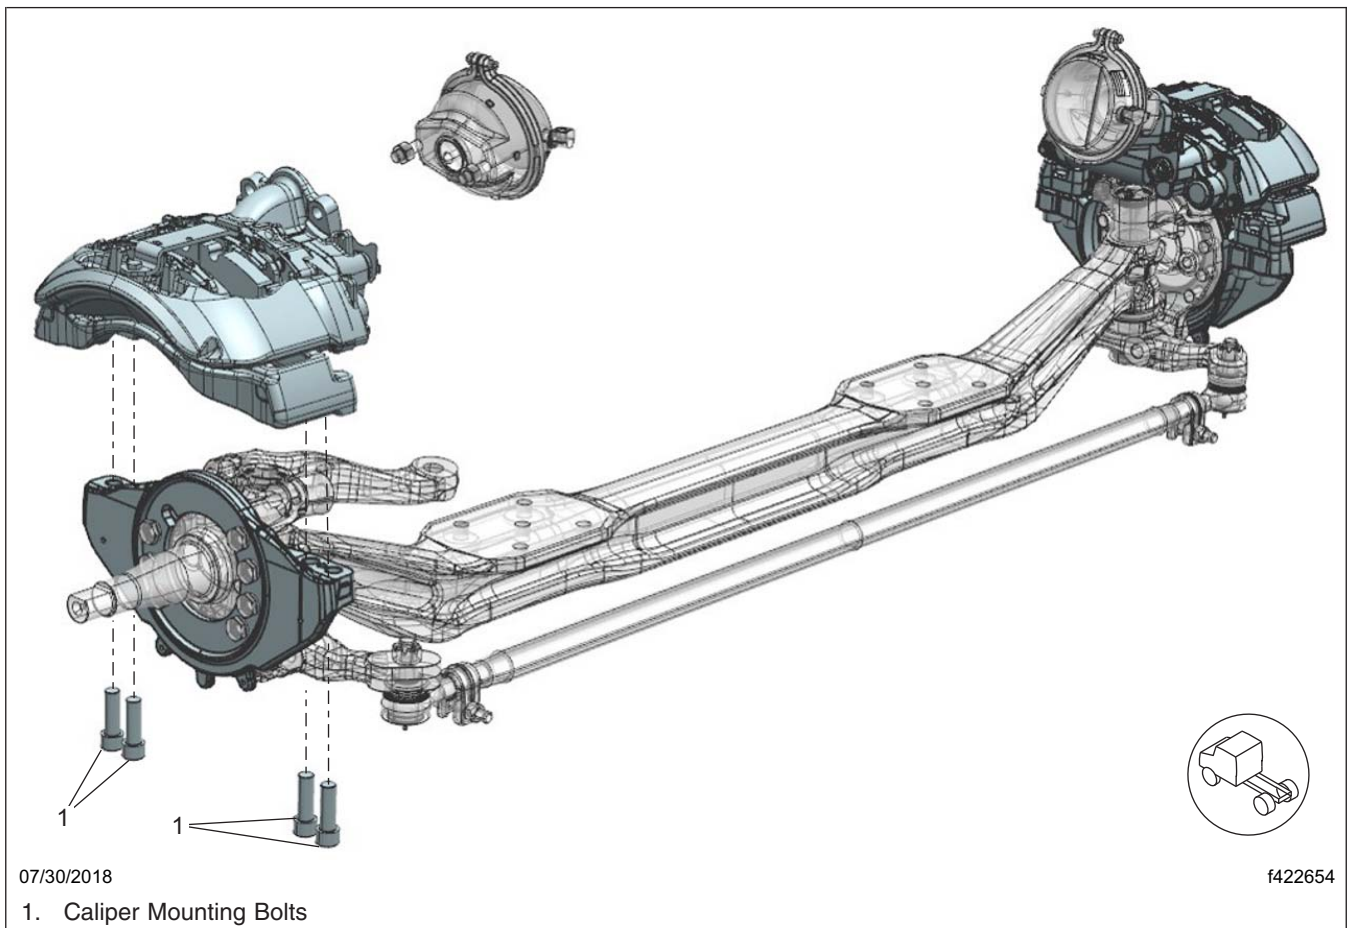
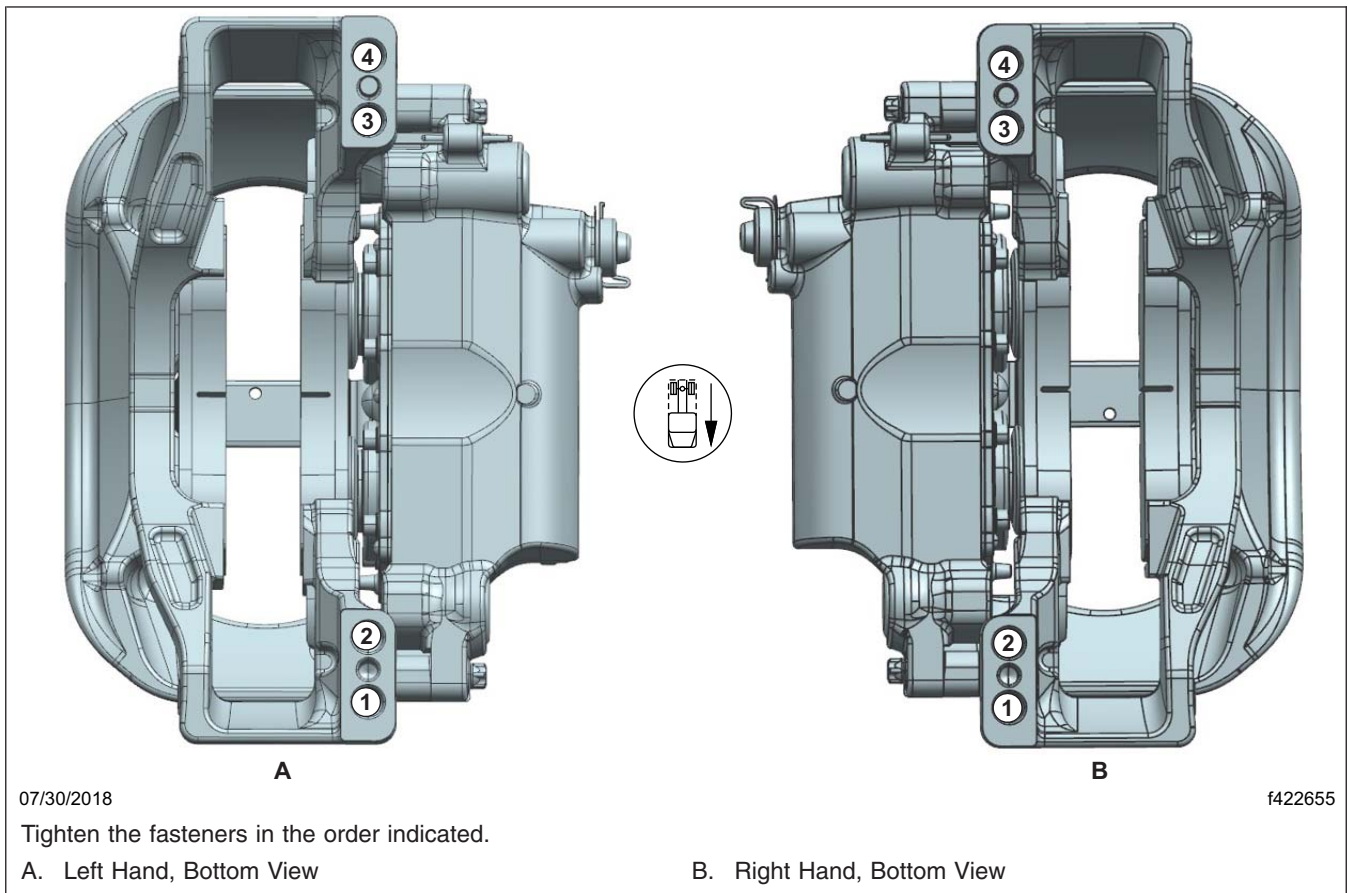

Fig. 3, Meritor Radial Mounted Caliper
Fig. 4, Tightening Pattern, Meritor Caliper
6. Align each caliper/carrier assembly with the rotor by pushing the fixed pin side of the caliper against the shelf on the torque plate, then install the caliper/carrier assembly using new caliper mounting bolts. See Fig. 3 and Fig. 4.
7. Tighten the carrier mounting bolts in two steps, using the pattern shown in Fig. 4.